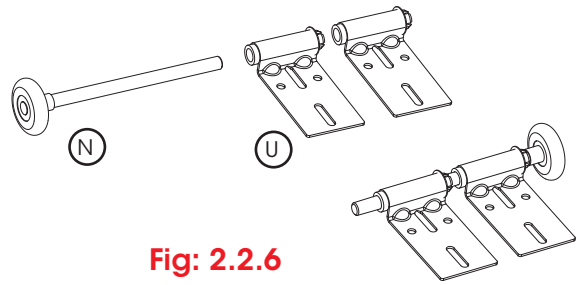

Fig: 2.2.6
a) Insert the appropriate wheel axle (N) (standard, extended or smooth track) into the top hanger (U) Fig 2.2.6.